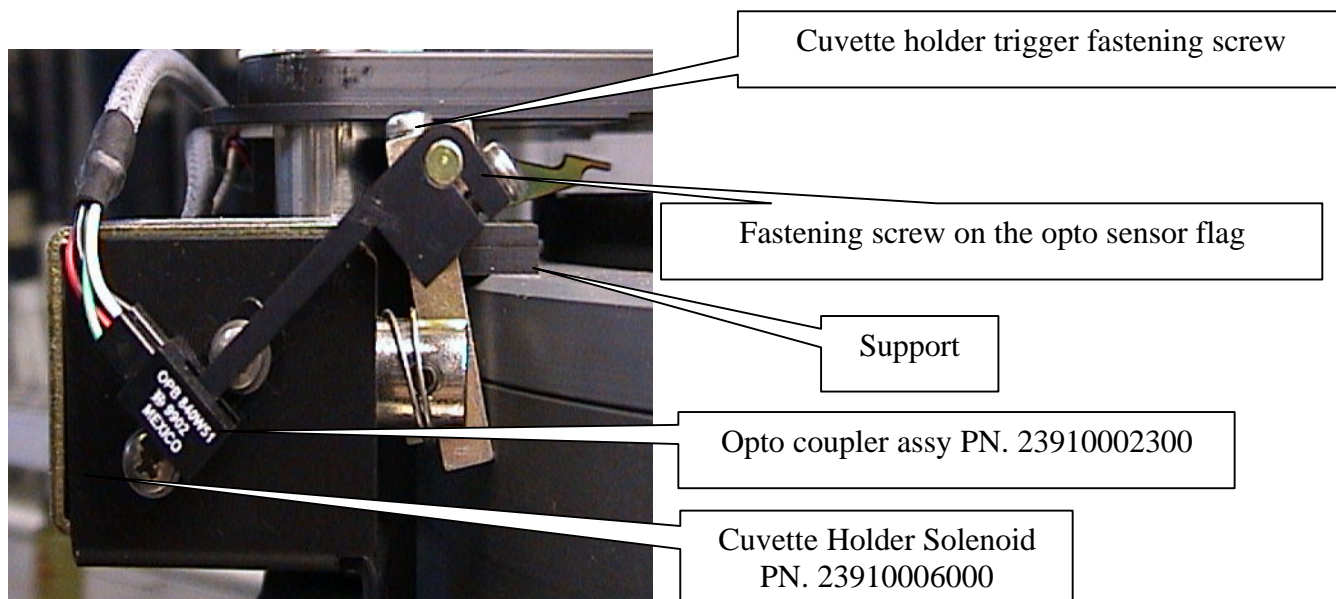

Fig. 7 Cuvette Holder
5. Remove the magnet's two fastening screws (Fig. 7).
3. Remove the optic sensor's two fastening screws and substitute it with the new one (Fig. 7).
1. Loosen the screw on the cuvette holder trigger (Fig. 7).
10. Select "Home" and "Down" several times by clicking on the appropriate keys. Make sure the "Home Sensor" Cuv. Holder window lights up green when the washing station is in the "Home" position and lights up red when the washing station is in the "Down" position. If not, loosen the fastening screw on the opto sensor flag and adjust to obtain the correct signal (Fig. 7).